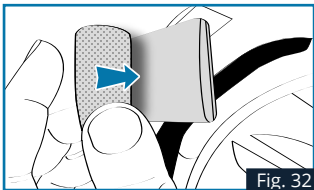

Fig. 32
3. Affix the foam cushioning present in your SENA FOR SHARK kit (Bluetooth or Mesh) to the back of the battery of your Intercom Fig. 32.